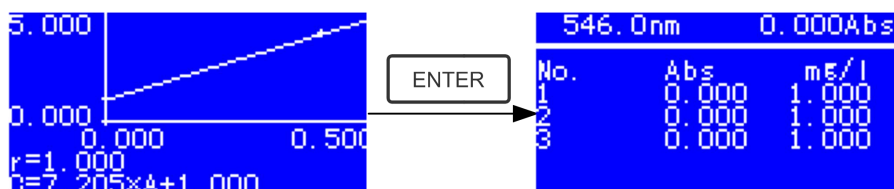

Fig. 4-12
- ★ Pull the Reference solution in the light path and press ENTER to go into the continuous measurement interface. (Fig. 4-12)
- ★ Press  to go into sample continuous measure interface and measure samples. (Fig. 4-12)